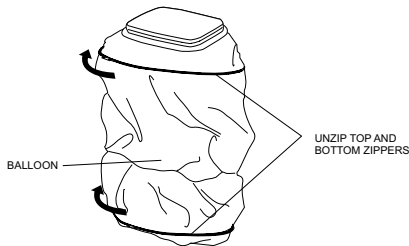

Figure 1. Unzipping Balloon
4. Unzip the balloon on the top and bottom. See Figure 1.